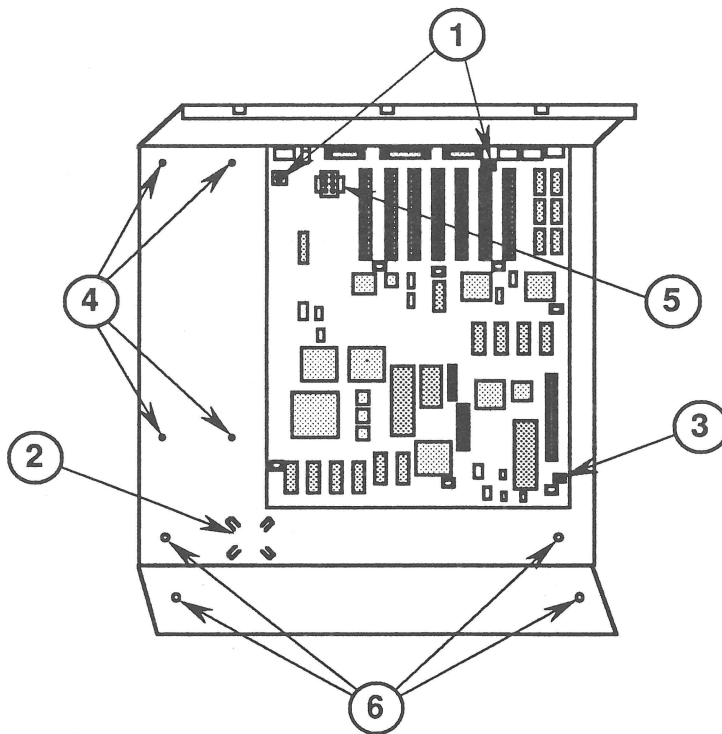

FIGURE 2
3. Install the Apple IIGS logic board onto the PCB supports on the new bottom pan. Install the two logic board mounting screws (Figure 2, #1).
4. Install the customer's speaker on the new chassis (Figure 2, #2).
5. Connect the speaker cable to its plug on the logic board (Figure 2, #3).
6. Align the screw mounts on the customer's power supply with the screw holes on the new bottom pan (Figure 2, #4). Insert and tighten the four power supply screws.
7. Connect the power supply connector to its socket on the logic board (Figure 2, #5).
9. Using four of the screws, install the brackets (one on each side) on the bottom pan (Figure 2, #6).